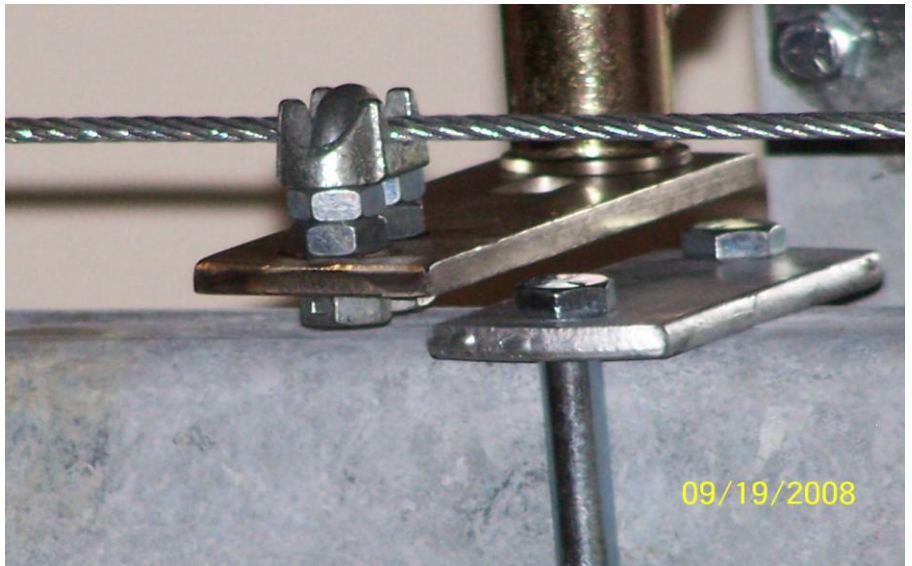

Figure 6
**6. Remove the cable clamp and reinstall as shown (Figure 6) with the cable loosely secured in the clamp.**